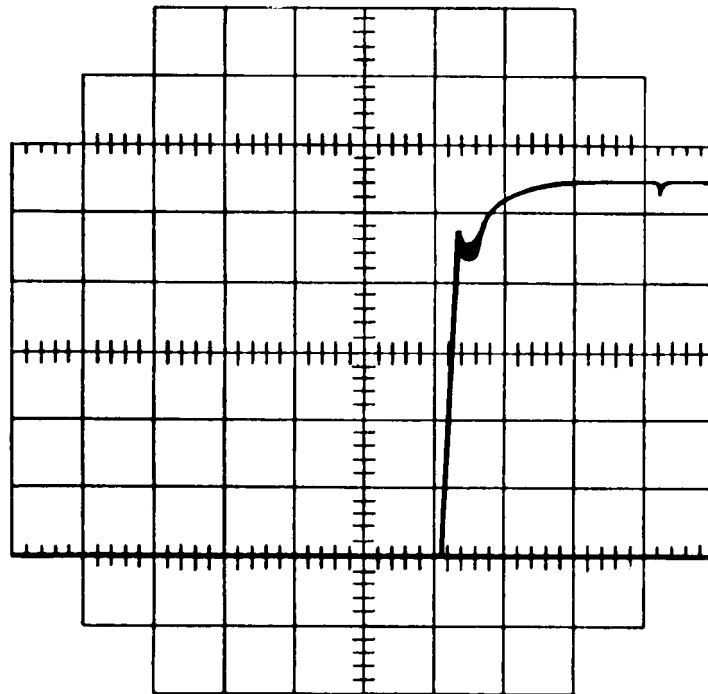

Figure 7. Slope of beat frequency.
(26) Slowly adjust the FREQUENCY dial to about the 0.5-MHz point to position the slope of the beat frequency notch near the center of the oscilloscope trace as shown in figure 7.